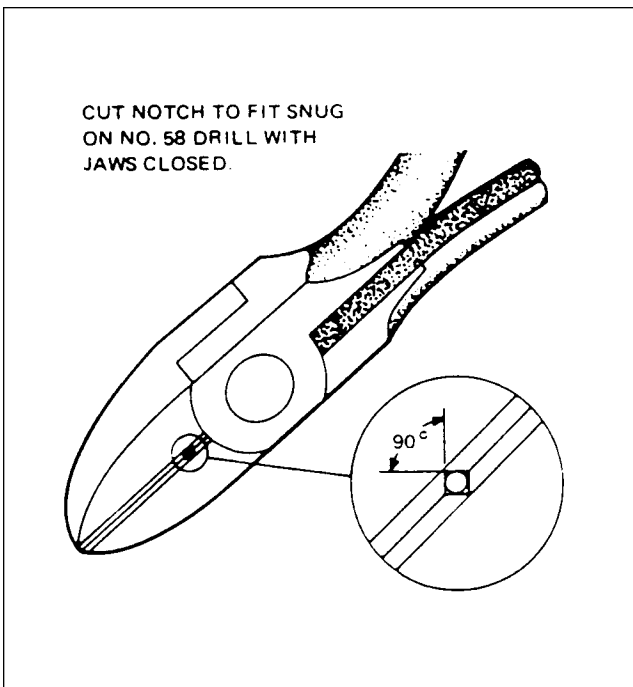

Figure 74-22. Modified Pliers
3. Replace grommet and eyelet with AB groove of Crimping Tool No. 114152 or a pair of diagonal pliers modified as shown in figure 74-22.